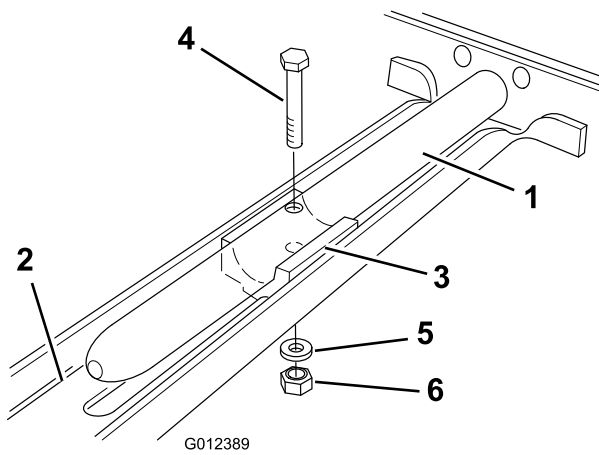

Figure 5
- Open the grass basket and slide the dump handle through the hole in the top of the basket and into the handle channel (Figure 5).
2. Lift up on the end of the dump handle, positioning it on the handle guide in the channel with the holes in the handle and guide aligned (Figure 5).
3. Secure the handle guide and dump handle to the channel with the bolt (1/4 x 2 inch), washer, and locknuts (1/4-20 inch) (Figure 5).